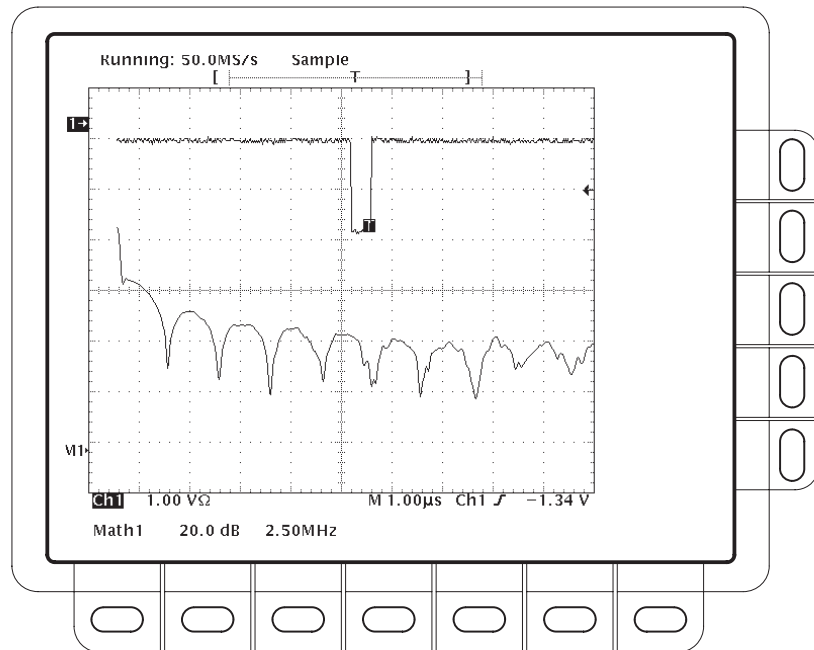

Figure 3-17: FFT Math Waveform in Math1
12. Press **OK Create Math Wfm** (side) to display the FFT of the waveform you input in step 1 (see Figure 3-17).